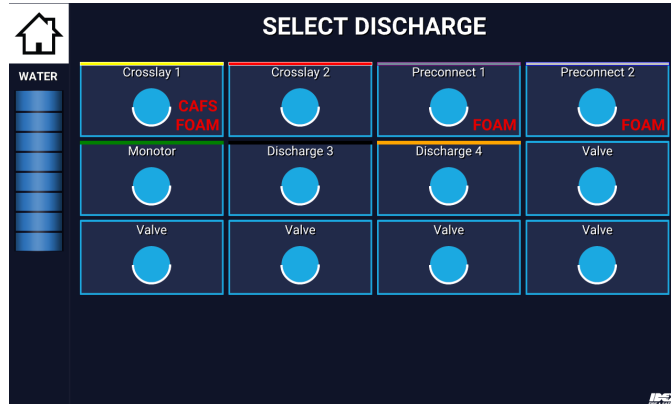

Figure 15. Selecting A CAFS FOAM ONLY Capable Discharge
A CAFS FOAM ONLY (see the NOTE in paragraph 3, page 7) preset is activated the same way a CAFS ready preset (see paragraph 3.2, page 8), however the preset/discharge is labeled with the word FOAM (see Figure 15).
Displays Valve X screen (discharge valve control screen) displays. (See Figure 15.)
- A. On SCC Home screen, touch any active CAFS discharge. (See Figure 14, page 9.) Displays Valve X screen (discharge valve control screen) displays. (See Figure 15.)